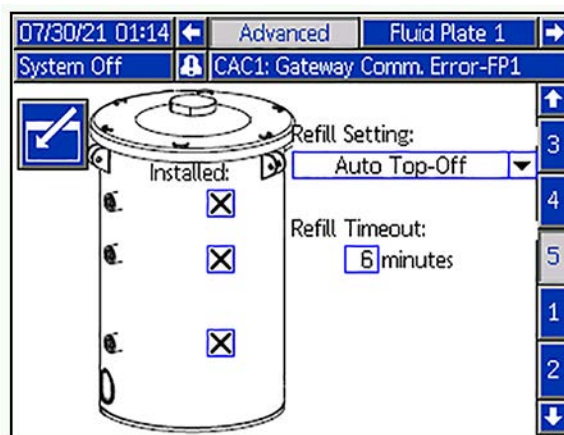

FIG. 34
3. Select a valid “Refill Setting” (not disable) then enter a non-zero “Refill Timeout” minute option (1-99 minutes as indicated below. See FIG. 34.